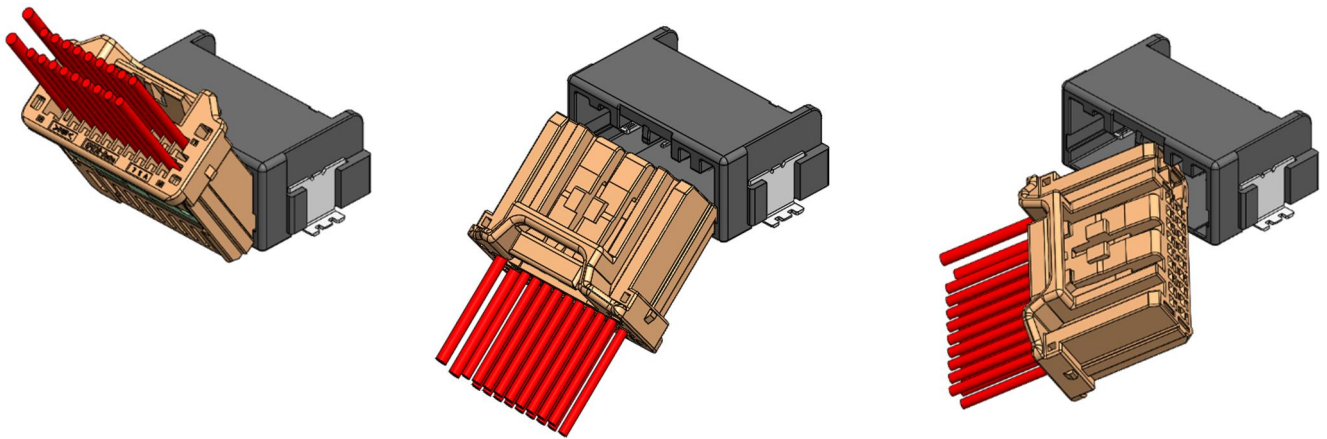

Fig 41. Mating orientations (not advisable)
- ① Push the female connector that has been installed the retainer in the direction of mating until makes an audible click (see Fig. 41). While mating the female connector, please do not touch the lock arm to prevent insufficient mating.
- ② After that, pull the female connector lightly to check that the female connector is locked.
- ① Only mate the connector in the direction instructed above. Do not forcefully mate in any orientation shown in Fig.41. Doing so may cause damage or deformation to connectors.
- ② If there is any damage or deformation, do not use the damaged item. Replace the item with a new one.